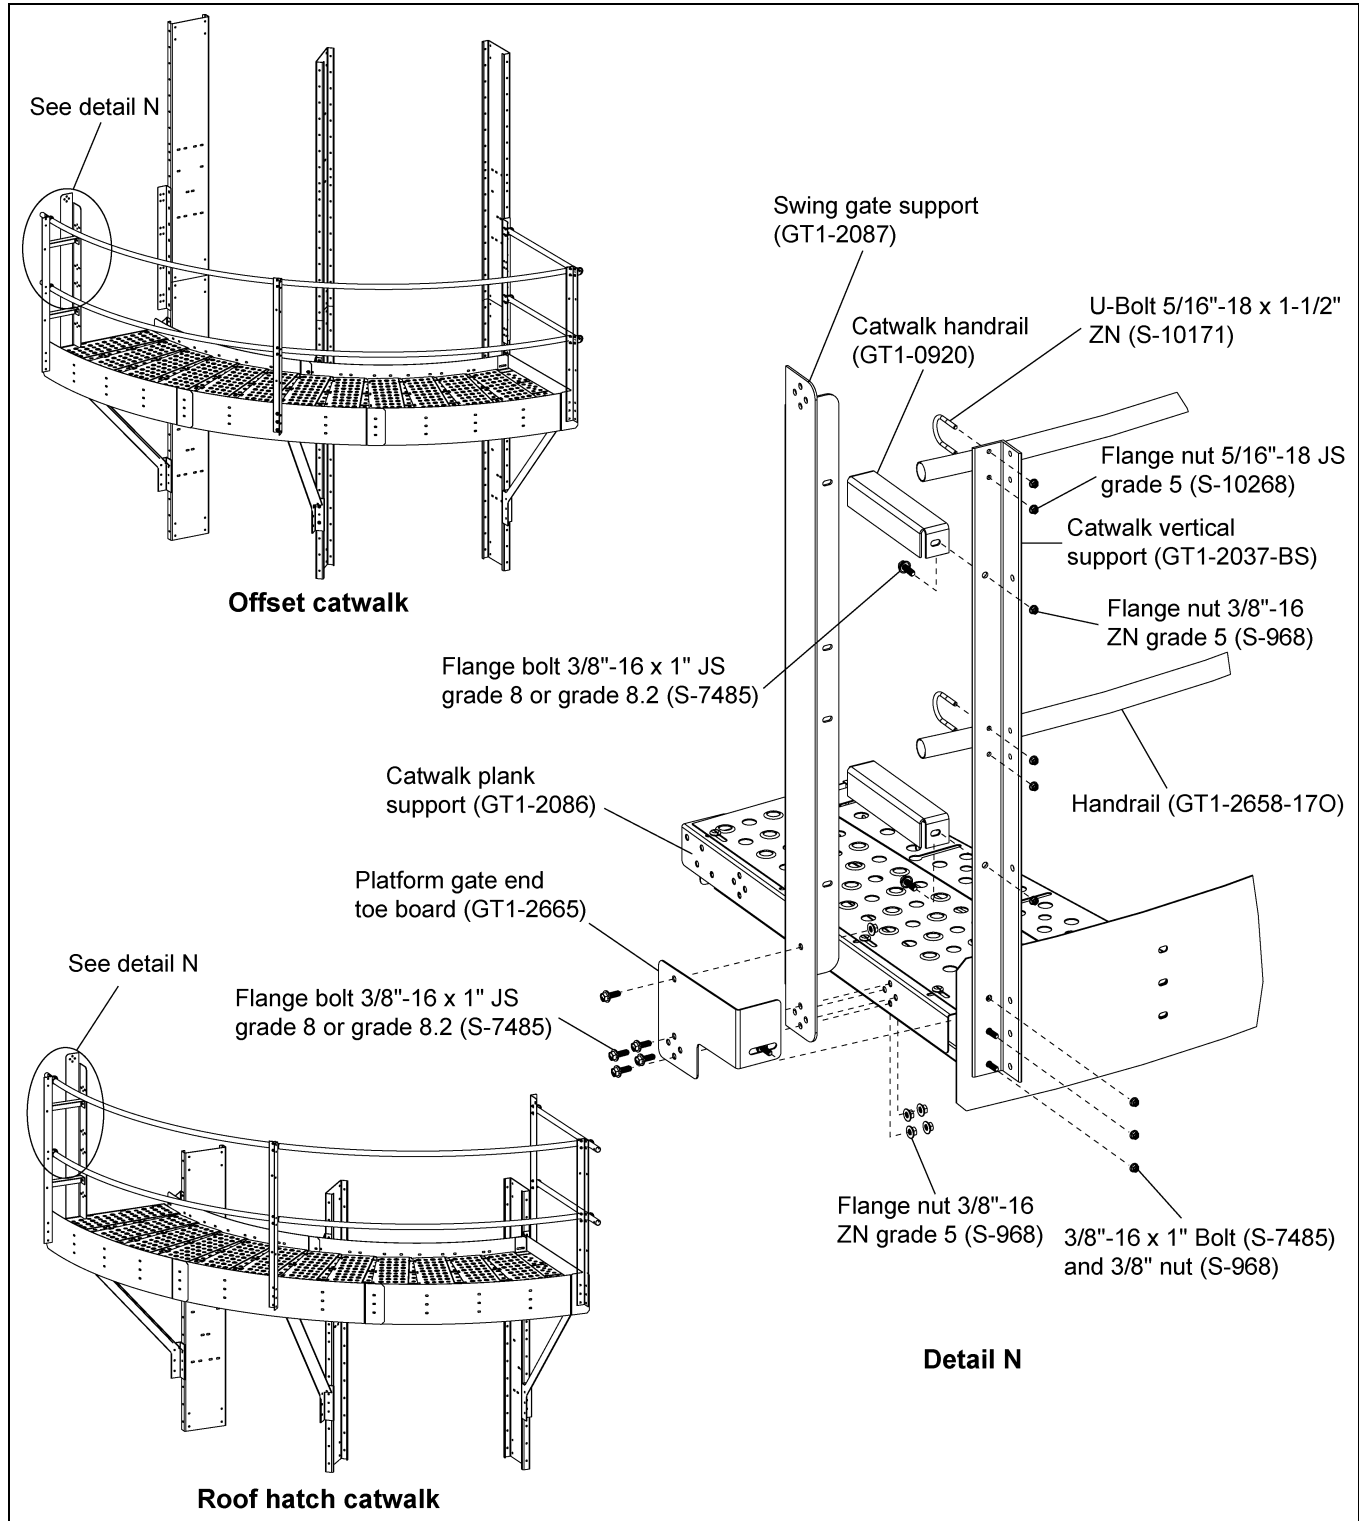

Figure 6X Installing Safety Gate (LDR-5218) to Offset and Roof Hatch Catwalks
2. Install two (2) catwalk handrails (GT1-0920) between the swing gate support (GT1-2087) and catwalk vertical support (GT1-2037-BS). (See Figure 6X.)